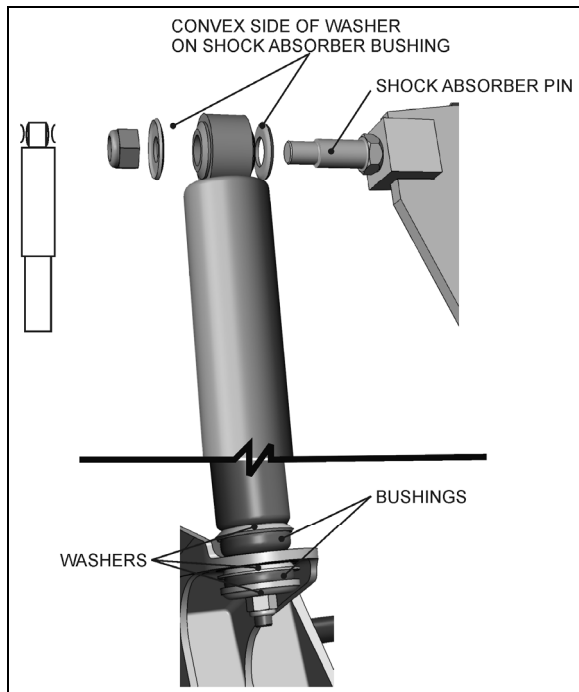
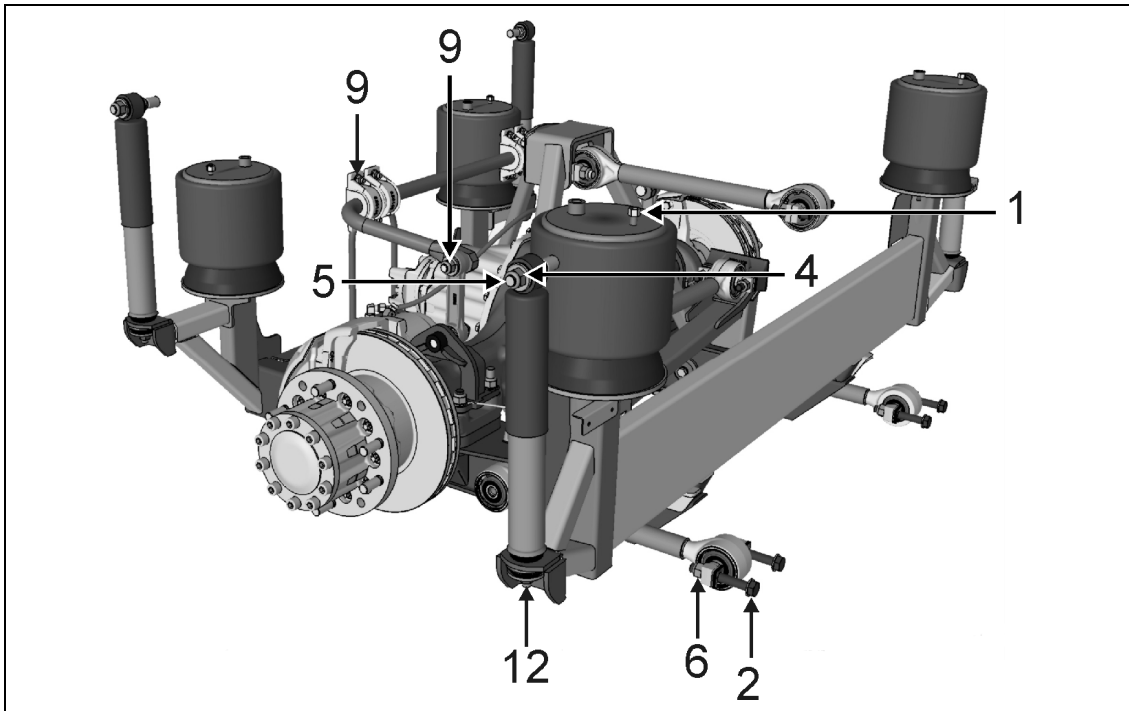

FIGURE 12: TYPICAL SHOCK ABSORBER SETUP 16009
FIGURE 13: TORQUE SPECIFICATIONS – DRIVE AXLE
Double-action, telescoping-type shock absorbers ensure a smooth ride and enhance vehicle stability on the road. All shock absorbers are eye-type mountings. The tag axle is provided with two shock absorbers while the drive axle is provided with four of them (Figure 12 & Figure 13).
1. Remove nuts and washers from shock absorbers on upper and lower mounting pins, taking care to identify the inner and outer washers to ease reinstallation. Refer to Figure 12 for details.